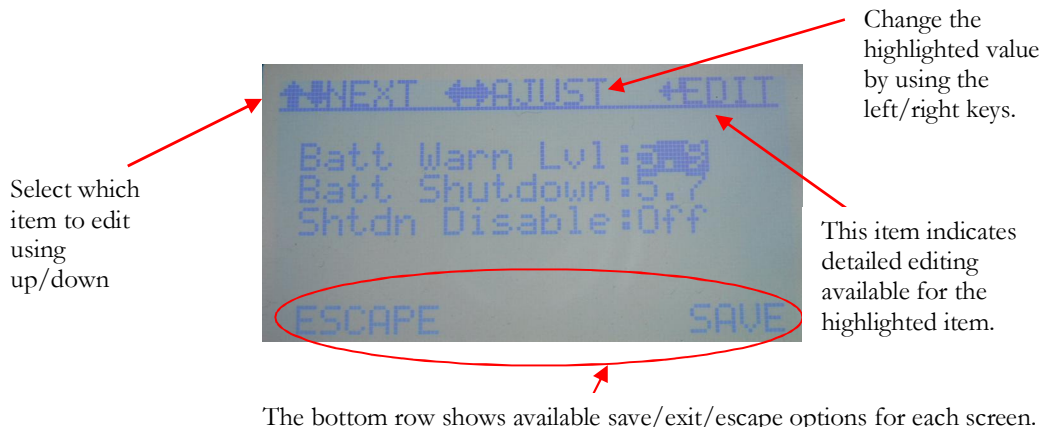

Figure 5.3
- D) Normal data entry – Most data entry can be accomplished by simple use of the LEFT/RIGHT keys to select/change values as shown in figure 5.3
Some data items require detailed editing as shown in figure 5.3. When the ‘EDIT’ item appears on the top row for a highlighted value the operator can either use the LEFT/RIGHT to change the value or use the ENTER key to enter the value directly – see Detailed data entry below.